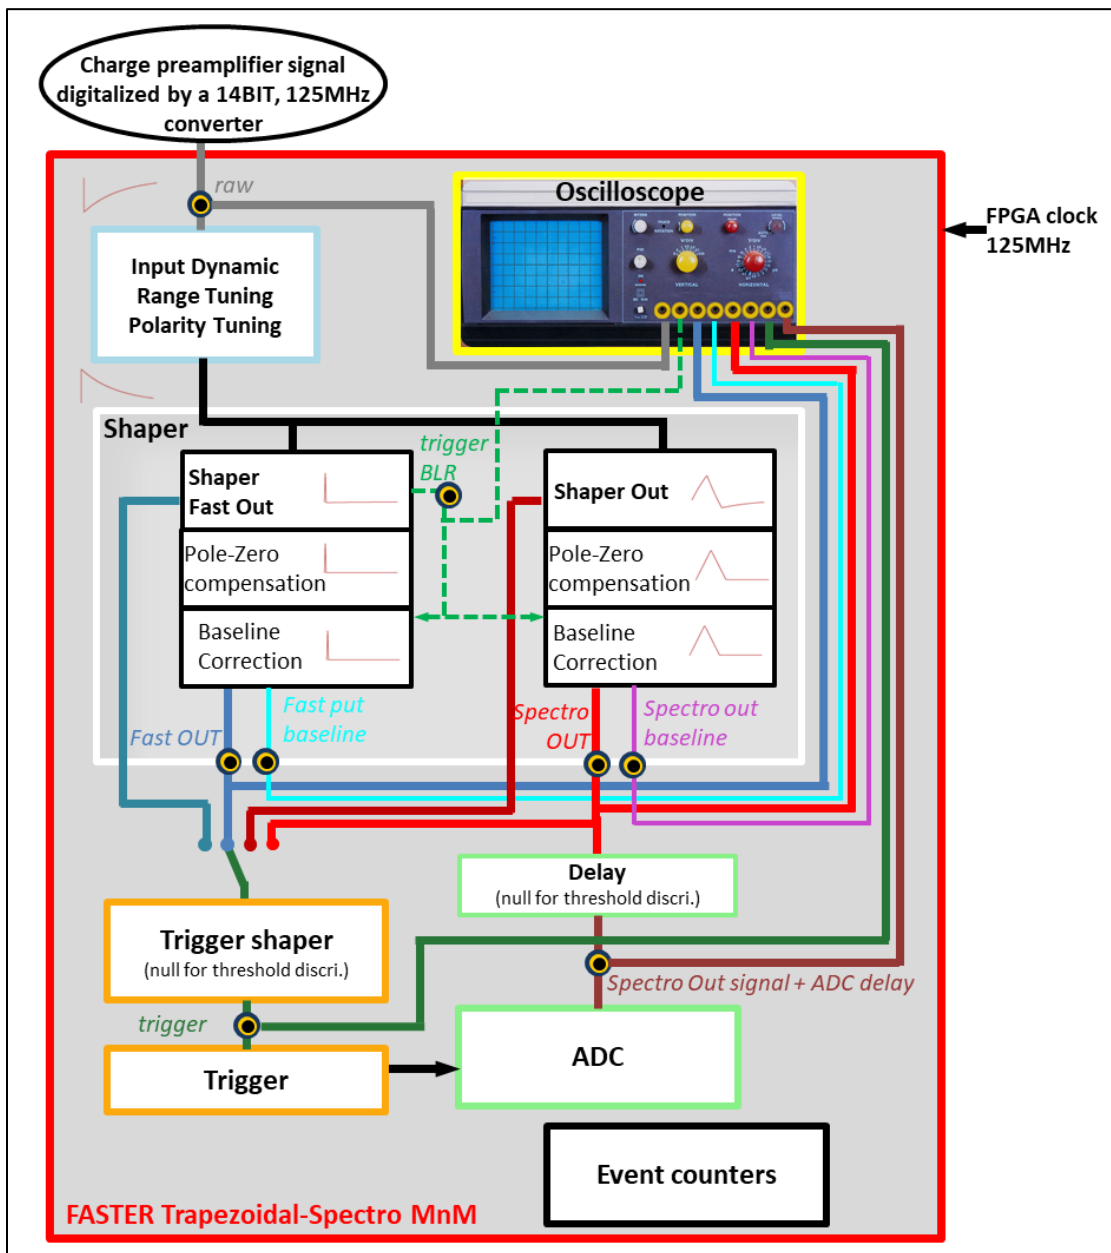
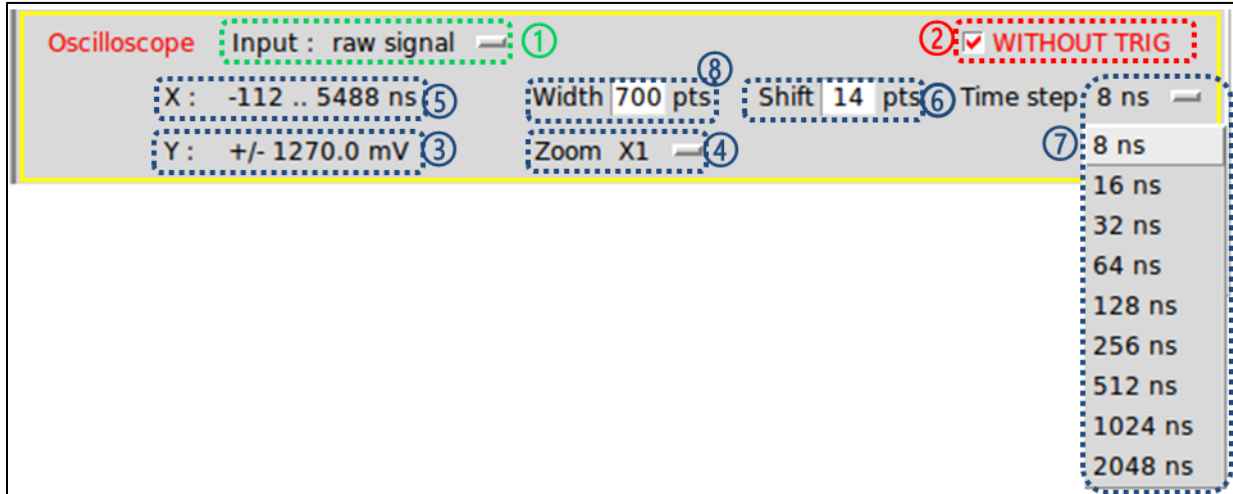
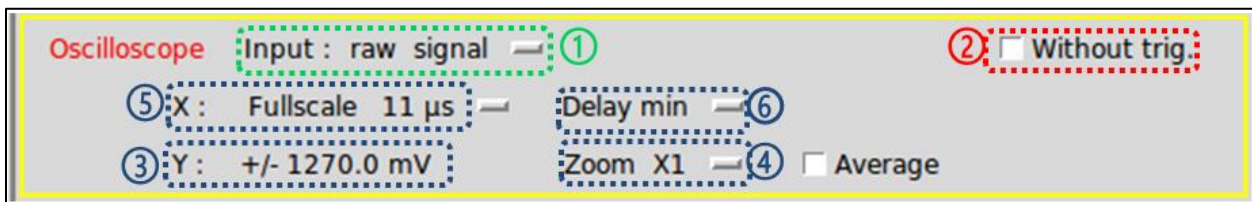
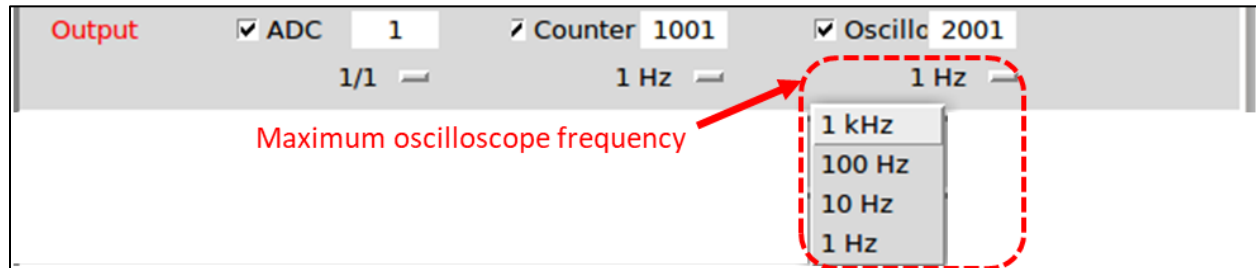

Figure 10: Diagram of FASTER Trapezoidal-Spectro MnM. The border colour of each box is as the one of the MnM interface.
Figure 11: Oscilloscope module / expert mode.
Figure 13: Oscilloscope module / basic mode
Figure 14: maximum frequency of the oscilloscope frame definition
Both interfaces include several tuning modules, synthetically described in Table 1 and Figure 10. Each module has some parameters that are adjustable by the user to achieve the best performance.
The signal, which is displayed by the oscilloscope module, is defined by the parameter ① (Figure 11 and Figure 13). Each ② on Figure 10 indicates the location of an Oscilloscope module input. The use case of this signal is described in Table 2.
In **the expert mode** (c.f. Figure 11), it is possible to choose the number of samples of the oscilloscope frame in ⑧. It must be an even number between 2 and 700. The user choose the time step between each point in ⑦. As each particle signal, triggered by the Trigger module or the BLR Trigger, is spotted by the “0 ns” relative time in the oscilloscope frame, the user have to select how many samples he wants before the “0 ns” sample, in the shift parameter ⑥. With an 8 ns time step, the value of the “0 ns” sample is always above the trigger level. In ⑤, the user can visualize the resulting time fullscale range. The Y-fullscale ③ depends on daughter board characteristics (c.f. § III.B). It is always 0 centered, and the experimenter can zoom with the zoom button ④.
In **the basic mode** (c.f. Figure 13), the oscilloscope frame contains 700 samples. Thus, the time fullscale (5) is entirely defined by the time step and equal to $700 \times [time\ step\ value]$. The time step value can be equal to 8 ns, 16 ns, 32 ns, 64 ns, 128 ns, 256 ns, 1024 ns or 2048 ns, thus, the time fullscale is respectively 5600 ns, 11 μ s, 23 μ s, 45 μ s, 90 μ s, 180 μ s, 360 μ s, 0.7 ms or 1.4 ms. The Delay button (6) corresponds to a shift of respectively 14 samples, 176 samples, 350 samples and 490 samples for respectively Delay min, 25%, 50% and 70%. As in expert mode, the Y-fullscale (3) in basic mode depends on the daughter board characteristics (c.f. § III.B) and the experimenter can zoom with the zoom button (4).
If “without trig” is checked in ② (Figure 11 and Figure 13), Oscilloscope module does not use the Trigger module to start storing an oscilloscope frame, but it uses a clock, whose frequency is defined in the “Output” module (cf Figure 14). The user can select either 1 kHz, 100 Hz, 10 Hz, 1 Hz as output frequency.
If “without trig” is unchecked in ② (Figure 11 and Figure 13), the Oscilloscope module is woken either by the BLR trigger if the displayed signal is “trigger BLR”, otherwise by the Trigger module. In all case, the maximum oscilloscope frequency is defined by the Output module.